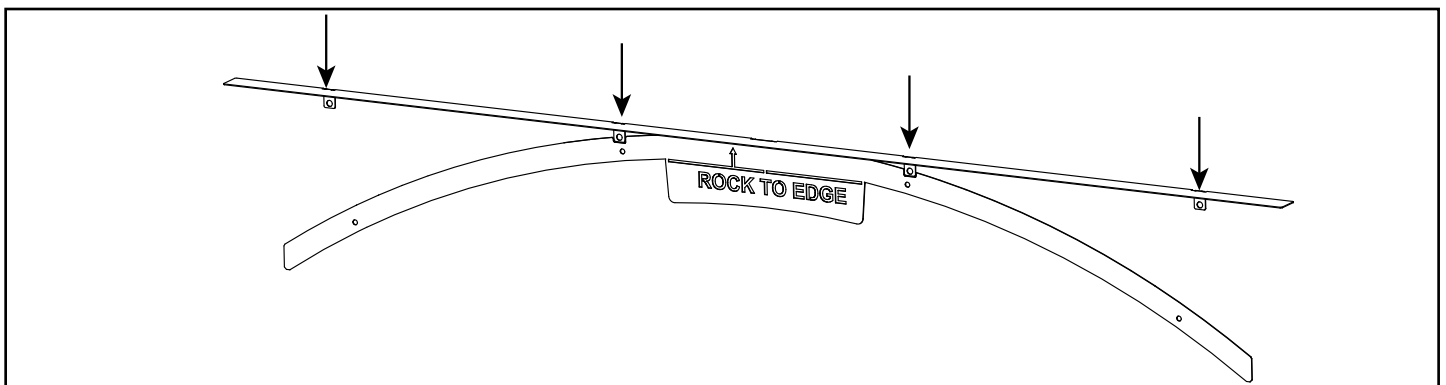

Figure 10.5 Arch Tabs Bent
2. Hand bend the four tabs to ninety degrees. See Figure 10.5.